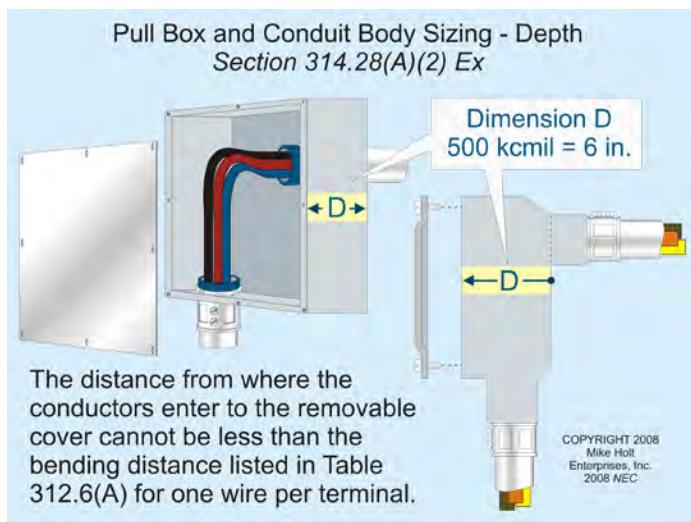

Figure 314-24
Exception: When conductors enter an enclosure with a removable cover, such as a conduit body or wireway, the distance from where the conductors enter to the removable cover must not be less than the bending distance as listed in Table 312.6(A) for one conductor per terminal. Figure 314-24